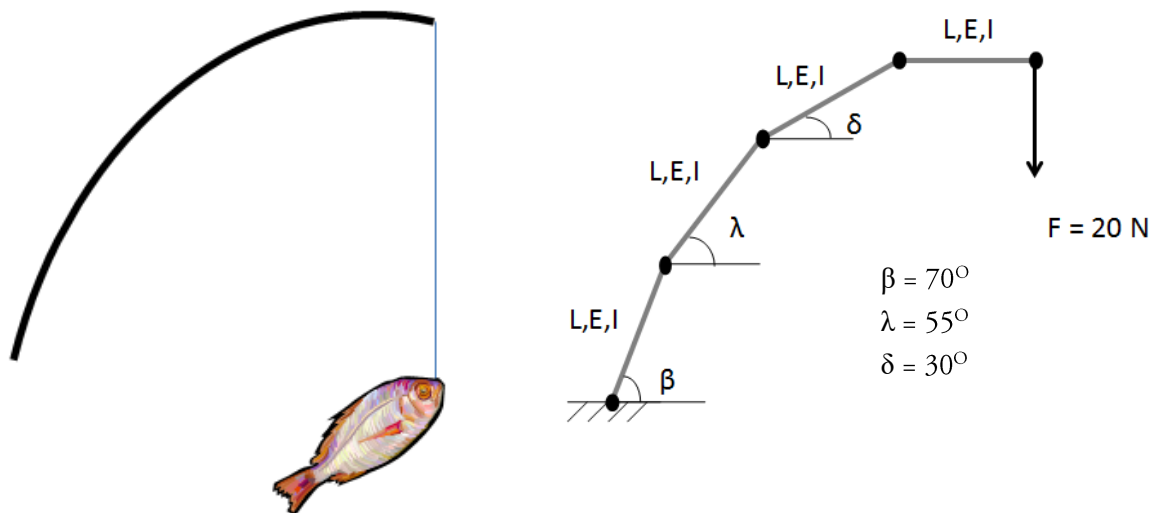

Figure 1. A fishing rod and a model of a fishing rod divided into four elements.
Your task for this laboratory is to use your knowledge from the lectures in Finite Element Method together with Matlab to determine the deflection of a fishing rod when a fish is hooked (figure 1). Present your results with a plot of the undeformed and deformed fishing rod plus an addition table of the deflections at the nodes. You can simplify the rod with a beam. The fishing rod is 2 m with a radius of 5 cm. The cross-section of the fishing rod is circular with inertia (I) of $\frac{\pi r^4}{4}$. The Young's modulus (E) is assumed to be 100 MPa.